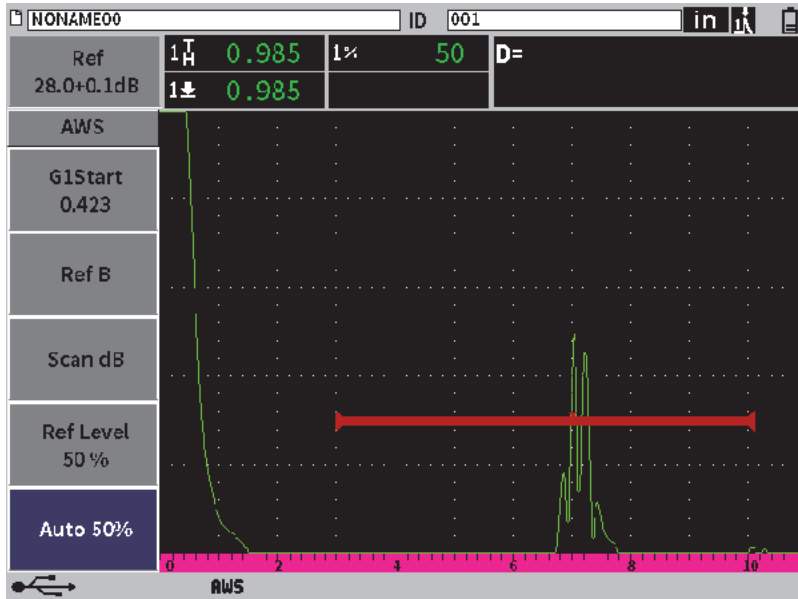

Figure 11-25 Active AWS with a Ref Level of 50 %
8. Press the Tab key to highlight **Auto XX%** (default value is 50 %), and then press the Enter key (see Figure 11-25 on page 183).